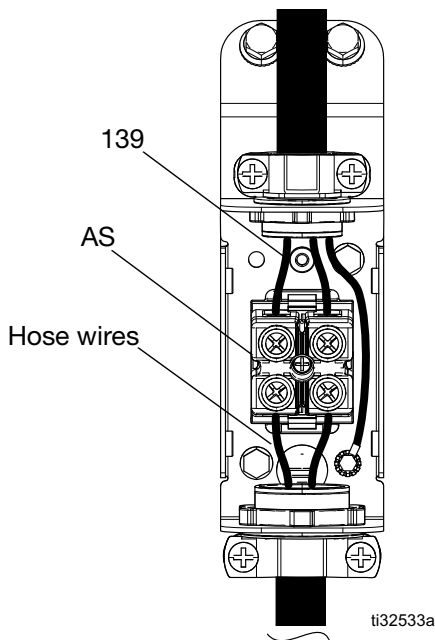

FIG. 70
2. Open the electrical enclosure door (173) by loosening the bolts (68) and lifting the door upwards.
3. Turn off circuit breaker CB5 and disconnect the hose wires in the hose electrical junction box. See FIG. 70, page 72.
- b. If there is continuity, reconnect the hose wires in the electrical junction box. See FIG. 70, page 72. Turn on circuit breaker CB5. Close the electrical enclosure door (173) and tighten the bolts (68).